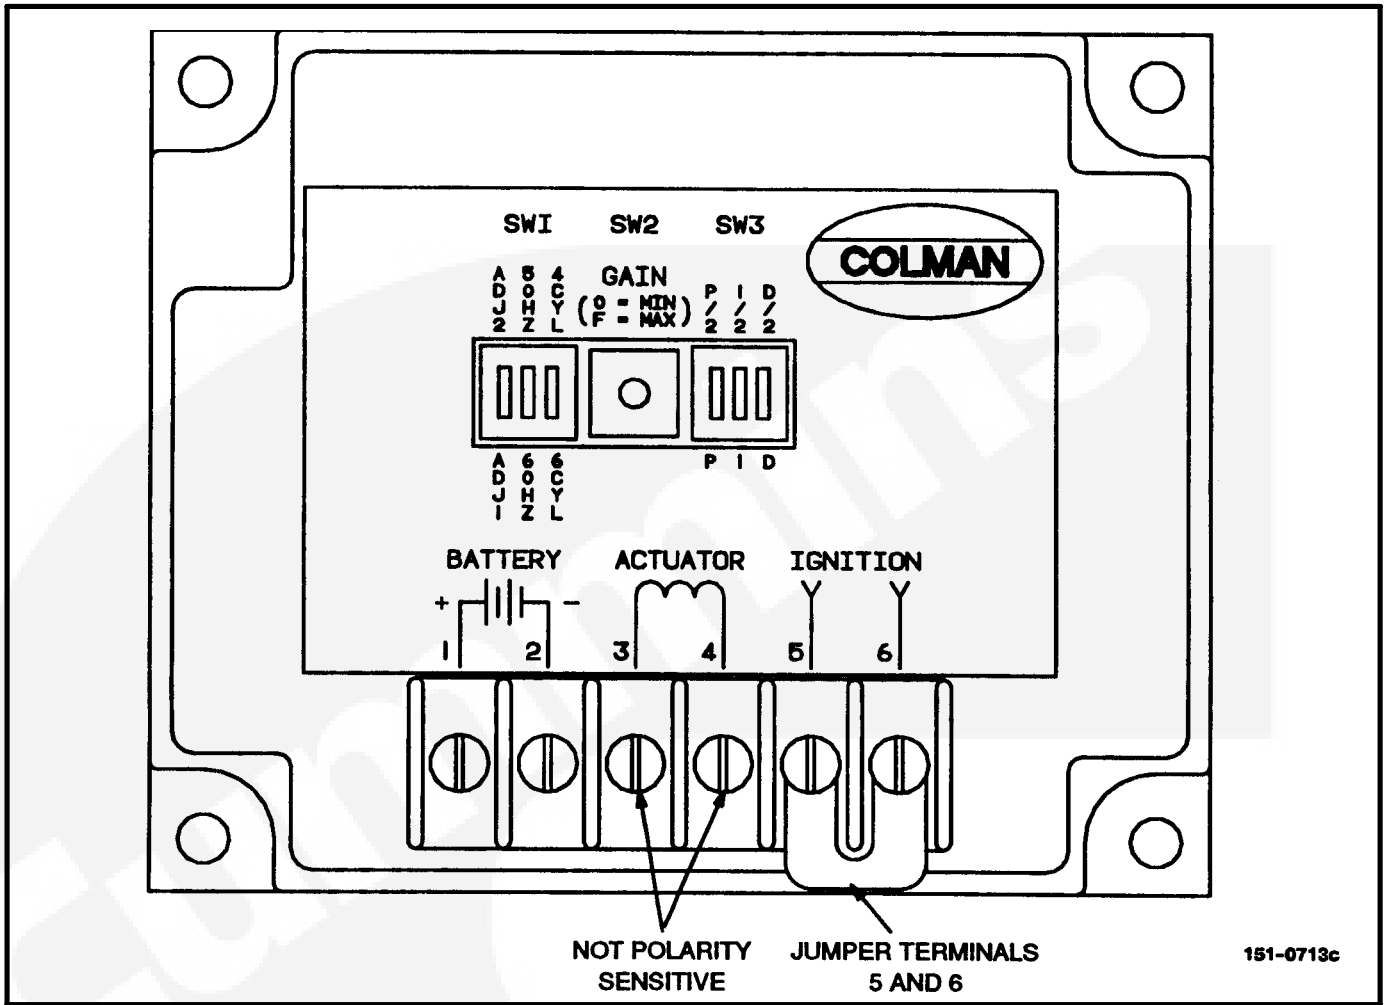
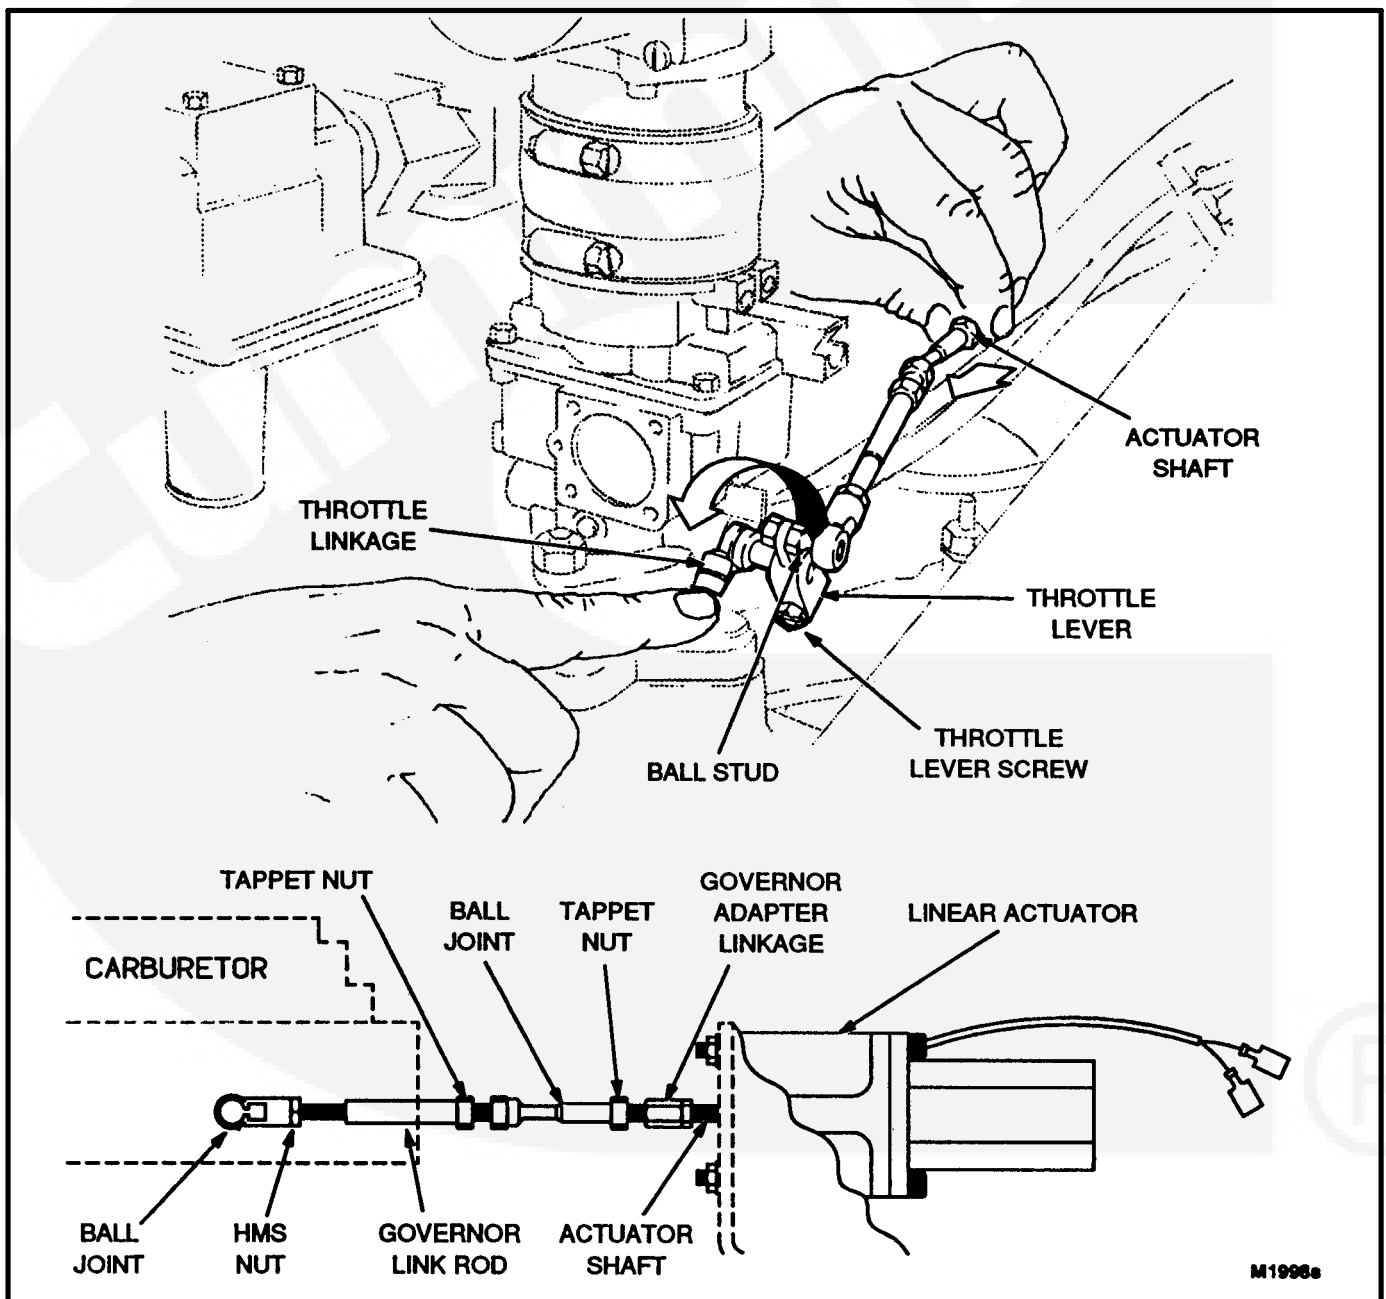

FIGURE 6-3. GOVERNOR CONTROLLER TERMINALS AND ADJUSTING SWITCHES
FIGURE 6-4. ELECTRIC GOVERNOR LINKAGE
If necessary, adjust the linkage according to Figure 6-4 and check the wiring of the controller according to Figure 6-3. Then adjust the governor controller as follows.
1. Set the switches as follows, see Figure 6-3:
Figure 6-4 illustrates the arrangement of the electric governor components and how to adjust the linkage of the electric governor. The following should be checked if components are loose or require adjustment.